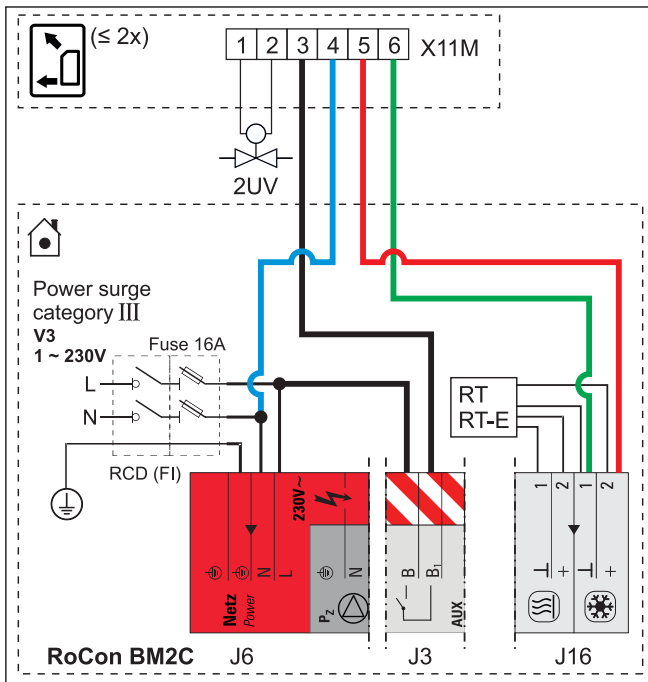

Fig. 4-41 Connection of the HP convector (max. 2) to the indoor unit
- Electrical connection of the HP convector with the following accessories according to Fig. 4-41 as a switchover contact (heating/cooling).